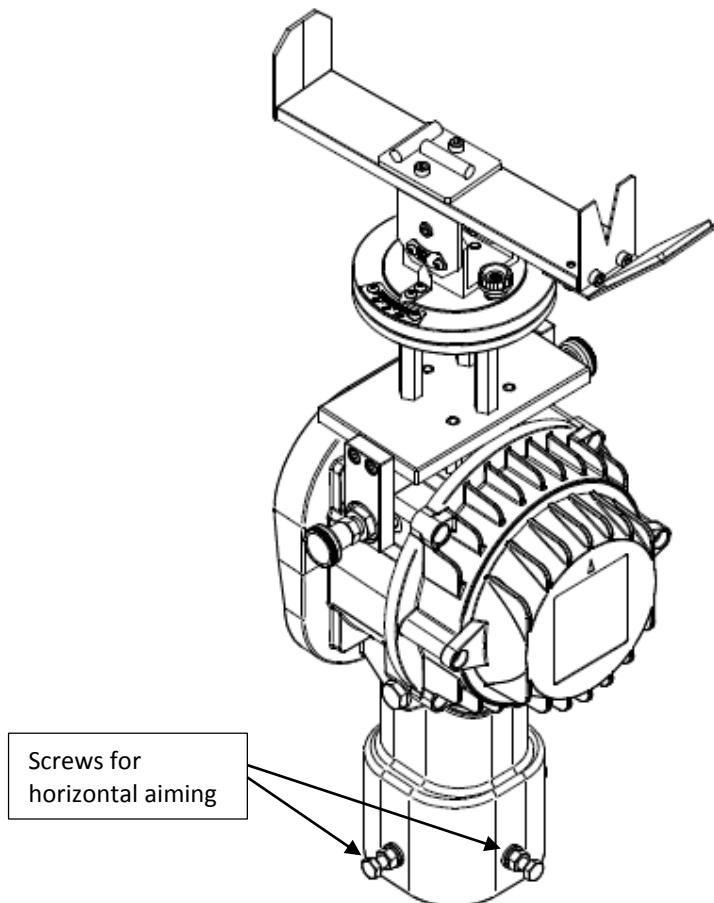

Figure 4: screws to allow the fixture horizontal aiming
- Level the fixture on the horizontal plane by using the 4 locking screws of the support (fig. 4).